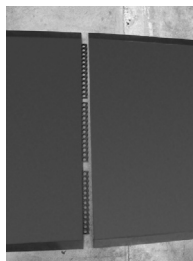

Fig.4
3. Move the end section of the runner with connector tabs into the desired position with the tubular cells against the floor surface. Place the next runner section in position according to its sequence number. Proceed in like manner placing each runner section in position according to the numbering sequence until the whole runner is laid out unconnected on the floor. (Figure 4)